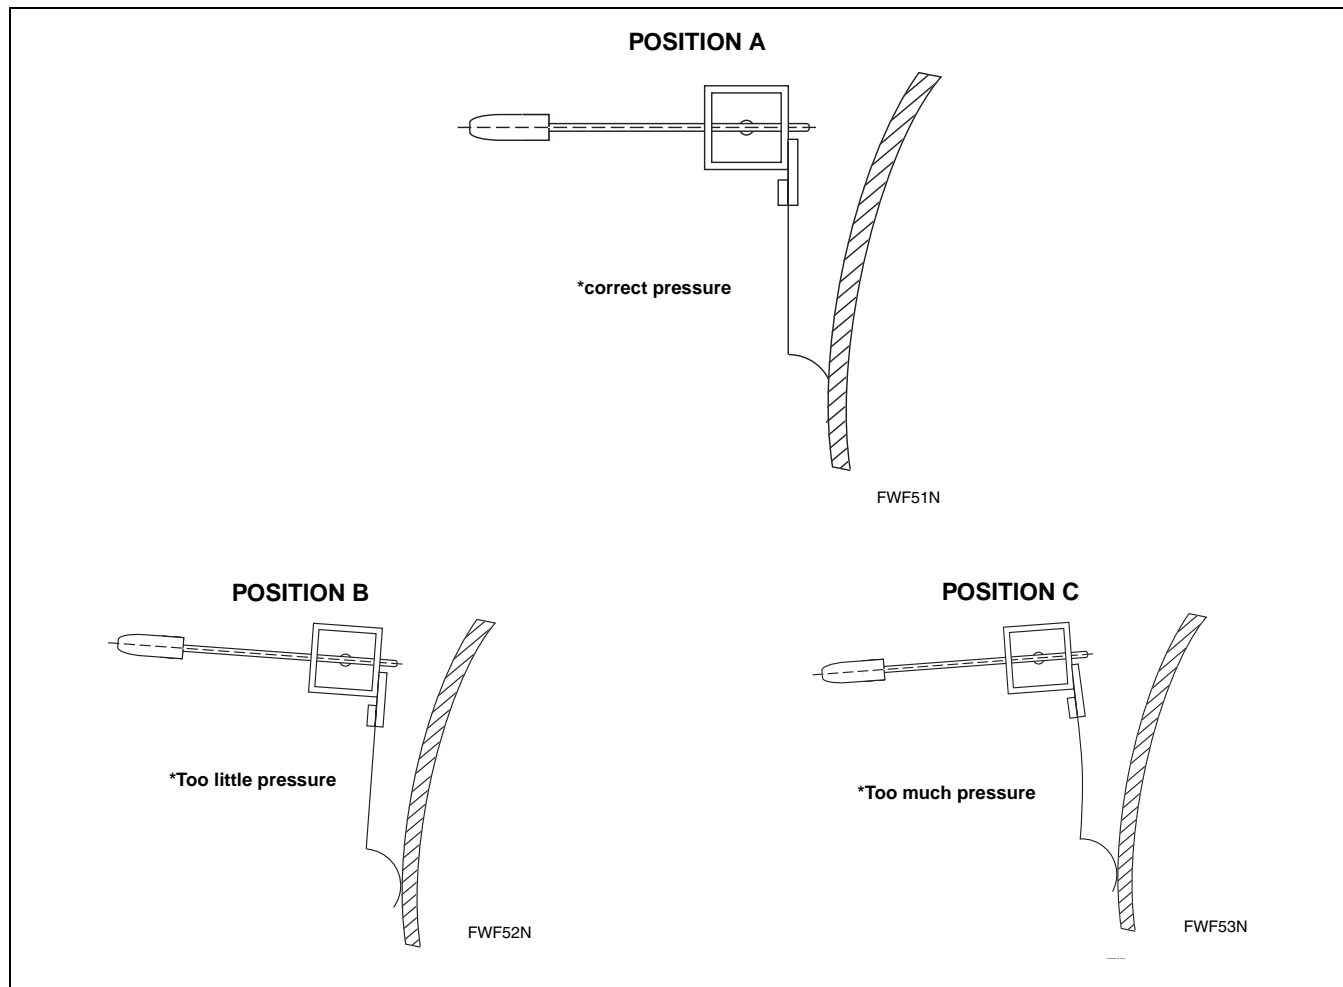

Figure 12
12. Adjust scrapers. Refer to *Figure 12*.